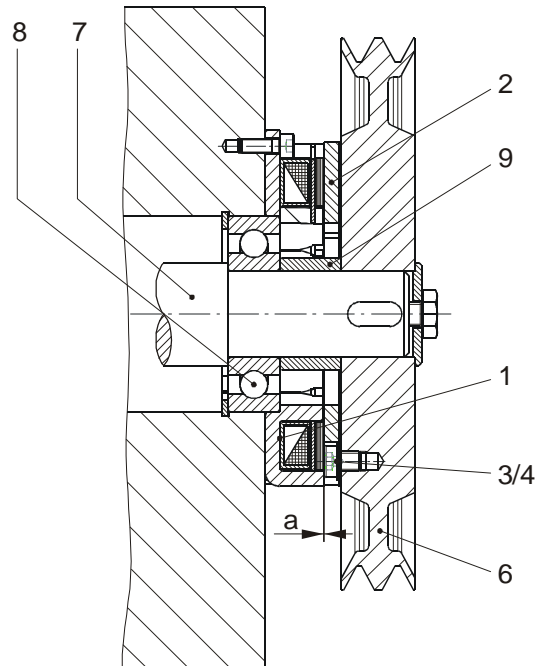
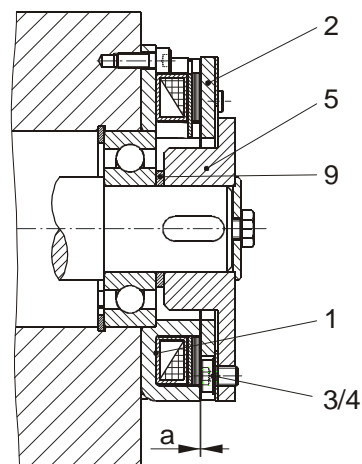

Fig. 2
Fig. 3
The coil carrier (1) is screwed onto the machine wall, centred on the shaft bearing (Figs. 2 and 3).
The air gap "a" is defined via a distance ring between the shaft bearing and the drive element (Fig. 2) or inner hub (Fig. 3).
Installation Examples (Figs. 2 and 3)
In operation, the armature disk (2) is pulled against the coil carrier (1). The braking torque is transmitted via frictional locking from the coil carrier (1) via the armature disk (2) with the transmission spring and the V-belt disk (Item 6 / Fig. 3) or the flange hub (Item 5 / Fig. 4) onto the input shaft (7).
- Centred by a ball bearing (8), Figs. 2/3.
- 3.1. Adjust the air gap "a" according to Table 1 and Figs. 2/3.
- 3.2. Secure the mounting part or flange hub (5) axially backlash-free.
Axial backlash changes the air gap "a" and can lead to the armature disk (2) rubbing against the coil carrier (1) (see Installation Examples Figs. 2 and 3).